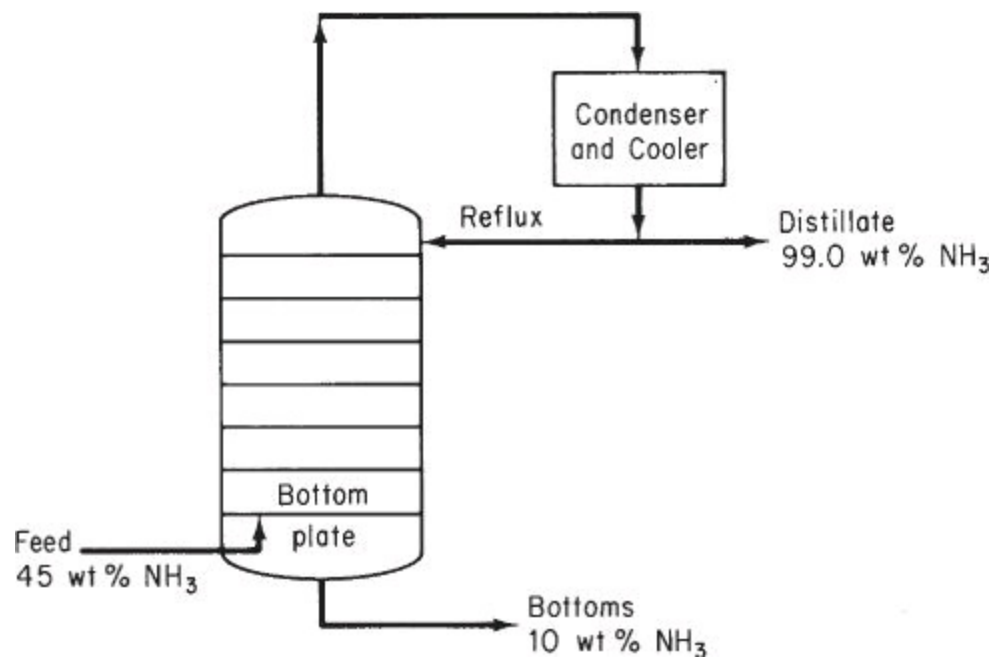

Figure P12.7a
- a. A vapor mixture containing 45 wt % ammonia, the balance being water, and having an enthalpy of 1125 Btu/lb is to be fractionated in a bubble-cap column operating at a pressure of 250 psia. The column is to be equipped with a total condenser. The distillate product is to contain 99.0 wt % ammonia and the bottom product is to contain 10.0 wt % ammonia. The distillate and the reflex leaving the condenser will have an enthalpy of 18 Btu/lb (Figure P12.7a).